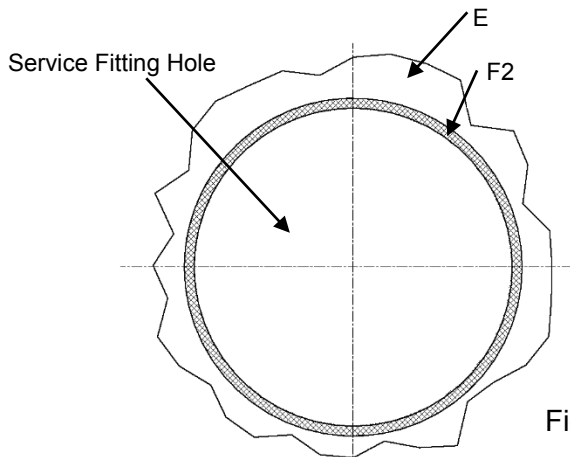

Fig. 3
5. FOR CARPETED FLOORS ONLY: Fill in the cut 10.50" – 10.75" diameter hole into the carpet (E) with continuous bead of electrical type of RTV silicone sealant (F2) fully around the perimeter as shown in Fig. 3. Sealant (F2) height to be same height as carpet. Apply sealant (F) per step 3.